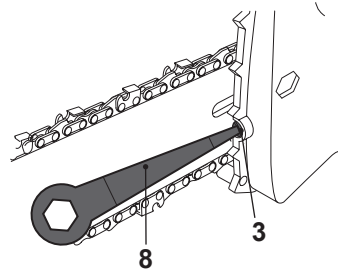

Fig. 8
- > Turn the tension screw (3) clockwise until the chain "tie straps" are just touching the bottom edge of the guide bar (5) (Fig. 8).